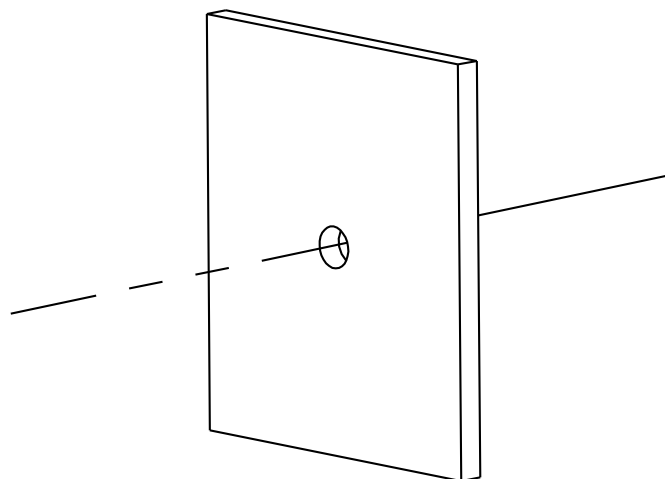

Figure 4-46 Drill on the Surface
1. Drill on the mounting surface. As shown in Figure 4-46.